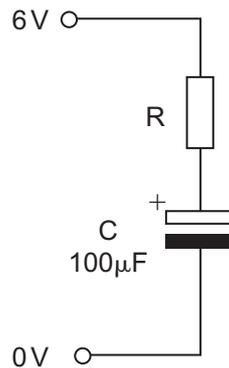

Fig. 9(a)
- 9 (a) A series resistor/capacitor (RC) circuit is shown in **Fig. 9(a)**.
- (i) The resistor R shown in **Fig. 9(a)** has a specified tolerance. Explain what is meant by tolerance when referring to resistors. [1]